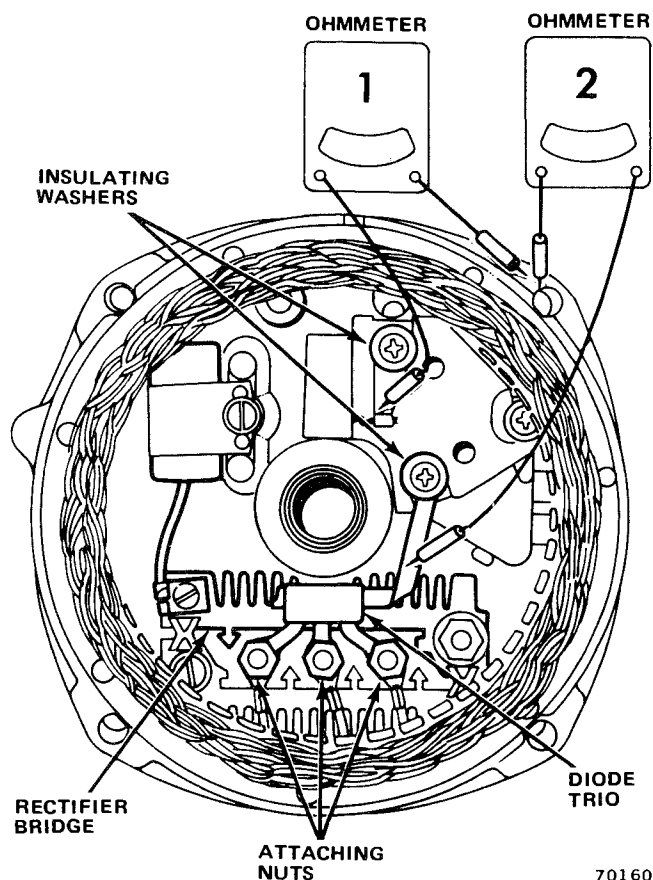

Fig. 1E-9 Rear Housing Assembly
- (1) Remove diode trio from rear housing assembly.
- (2) Connect ohmmeter having 1-1/2 volt cell to single brush connector and one stator lead connector (fig. 1E-10). Observe reading on lowest range scale.
- (3) Reverse leads to same two connectors.
- (4) Replace diode trio if two readings are same. Good diode trio will give one high and one low reading.
- (5) Repeat steps 2, 3, and 4 for each of three stator lead connectors of diode trio.
- (6) Connect ohmmeter to two connectors. If reading is zero, an open diode is indicated. Replace diode trio. Repeat test for each combination of stator lead connectors.